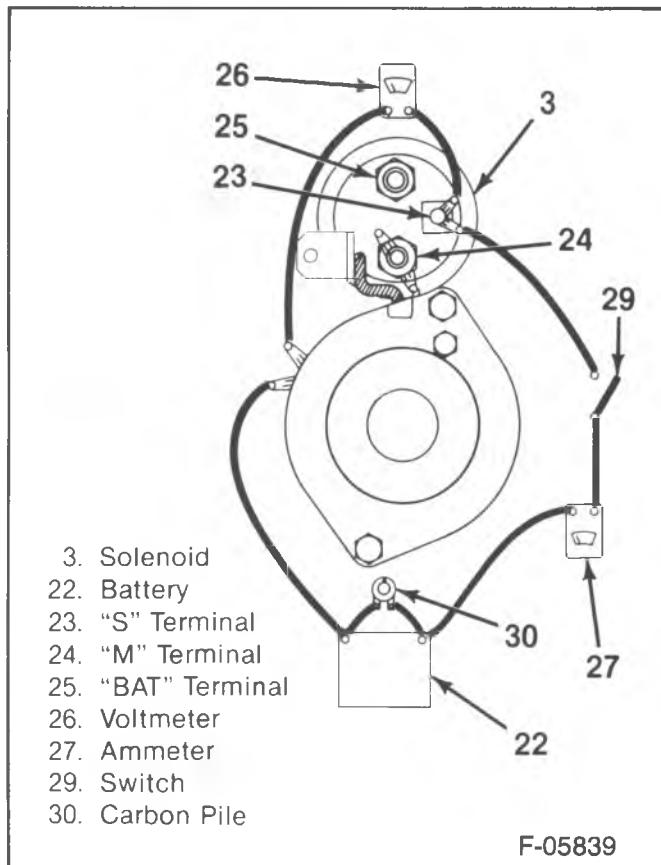

Figure 9—Hold-In Winding Test Connections
- With all the leads disconnected from the solenoid, make the test connections as shown in figure 9.